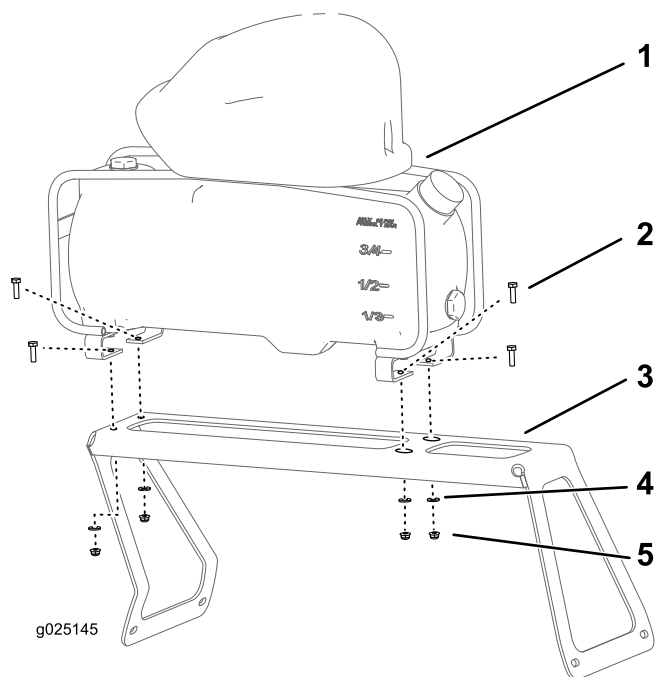

Figure 3
1. Align the foam marker tank and compressor to the mounting bracket as shown in Figure 3.
2. Secure the tank and compressor to the bracket (Figure 3) using the 4 bolts (1/4 x 7/8 inch), 4 washers (1/4 inch), and 4 flanged locknuts (1/4 inch).